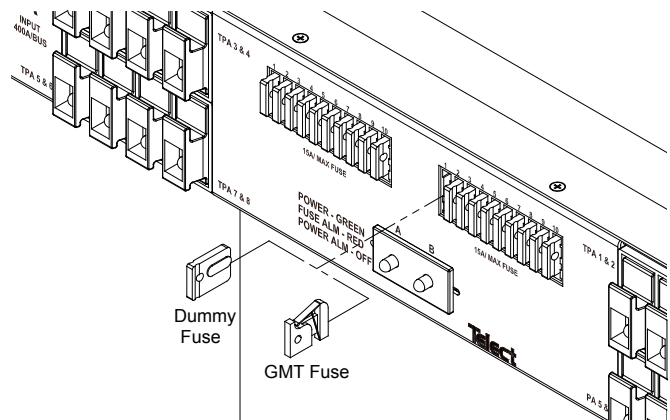

Figure 10 - Installing GMT Fuses
- For a GMT fuse, pull out the dummy fuse, and insert an operable fuse, as shown in Figure 10.